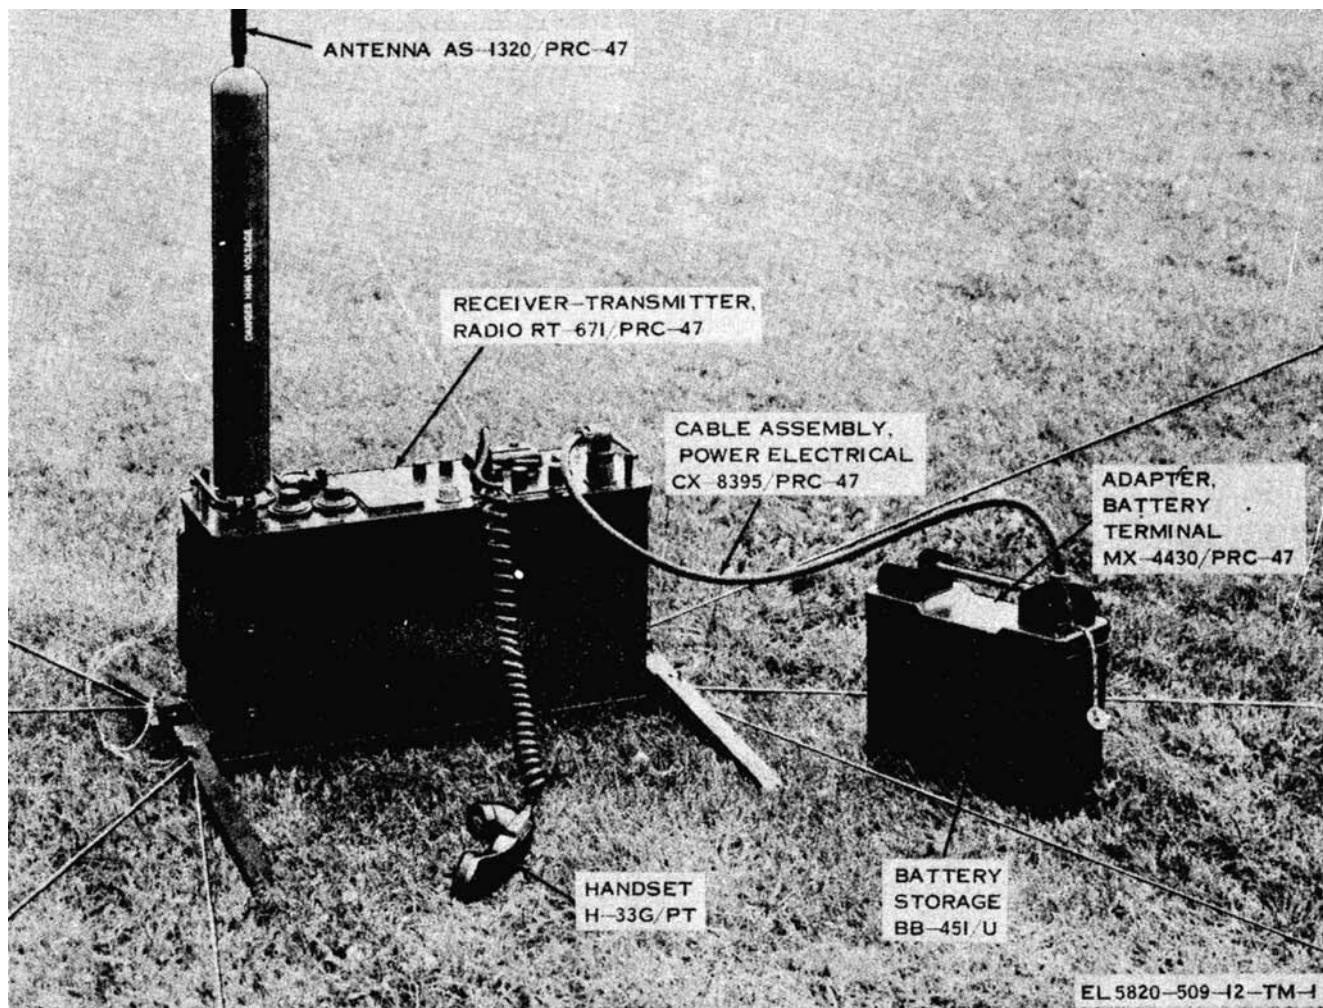
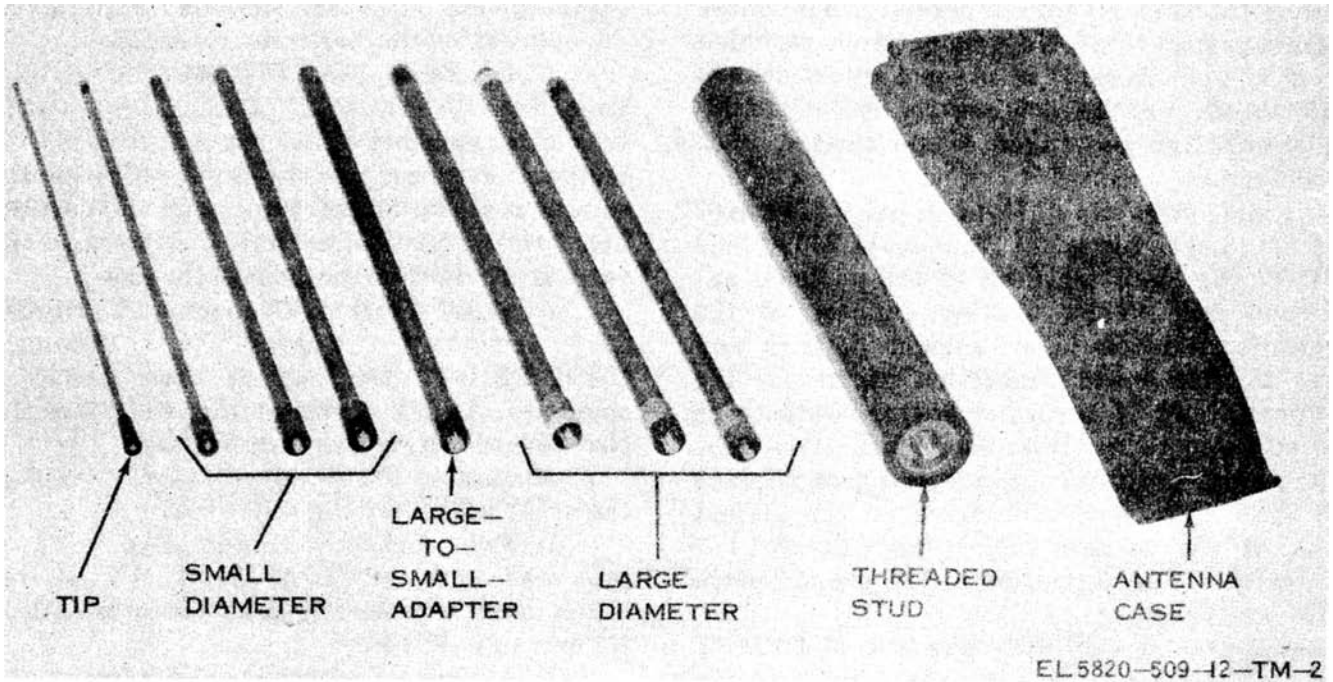

Figure 1-1. Radio Set AN/PRC-47
Figure 1-2. Antenna AS-1320 PRC-47
This manual describes Radio Set AN /PRC-47 (fig. 1-1) and includes instructions for installation, operation, organizational maintenance, shipment and limited storage, and demolition to prevent enemy use. The manual provides instructions for operation under usual and unusual conditions, and includes procedures for the cleaning, inspection, and maintenance of the AN/PRC-47 by the operator and organizational maintenance personnel. The repair parts list is contained in Appendix B and the maintenance allocation in Appendix C.
*a. Purpose.* Radio Set AN/PRC-47 (fig. 1-1) is a high frequency radio communications system. The radio set primarily provides 10,000 channels of upper sideband (usb) voice transmission and reception, continuous wave (cw) telegraphy, or frequency shift keying (fsk) teletype in the 2,000- 11,999-mHz frequency range. The radio set can be operated from its own control panel or controlled by a remote power control panel, such as Control Group AN/GRA-6, for at least a 2-mile distance.
Radio Set AN/PRC-47 (fig. 1-1) consists of several major units and a number of accessories that are required for operation. These major units are a receiver-transmitter, a silver-zinc battery, a power cable for battery (portable) operation that connects to a battery terminal adapter, a handset, and a whip antenna (fig. 1-2). In addition, an ac cable and a dc cable are provided for fixed station and vehicular operation respectively (fig. 1-3). The radio set is divided into two parts for portage; each part being attached to a separate rucksack frame for ease of handling (fig. 1-4). One frame carries the battery retainer and battery, battery cable, whip antenna, and accessory items required for portable operation. When desired to store the equipment, or when necessary to ship' the equipment, a radio set case (fig. 1-5) is provided. The case is waterproof and compartmentalized to protect the individual radio set units and accessories, and is equipped with carrying handles that permit easy handling. The radio set units and accessories are described below.
d. *Antenna AS-1320/PRC-47.* Antenna AS-1320/PRC-47 (fig. 1-2) is a 15-foot whip antenna that is used in conjunction with the ground-plane radials attached to Legs, Electrical Equipment MT-2786/PRC-47. The antenna is sectionalized into eight 20-inch sections plus a 20 inch threaded stud and is stowed in a canvas carrying case attached to the accessories rucksack frame (fig. 1-4).
(b) Assemble the antenna before attaching it to the Receiver-transmitter Begin assembly from the large-diameter diameter threaded stud and work toward the tip section (fig. 1-2).